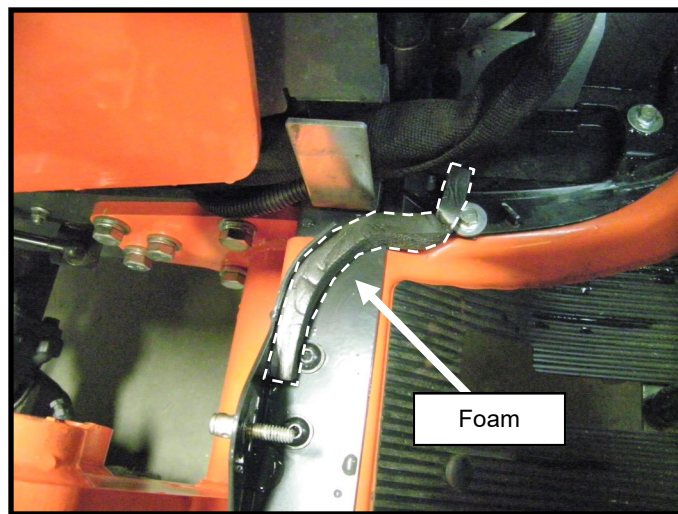

Figure 37: Foam Installation
37. Install a 7" piece of foam (see the white dashed lines in photo) to the top of the floorboard and route it down under where the air intake screen will sit as in Figure 37, repeat for the right side.